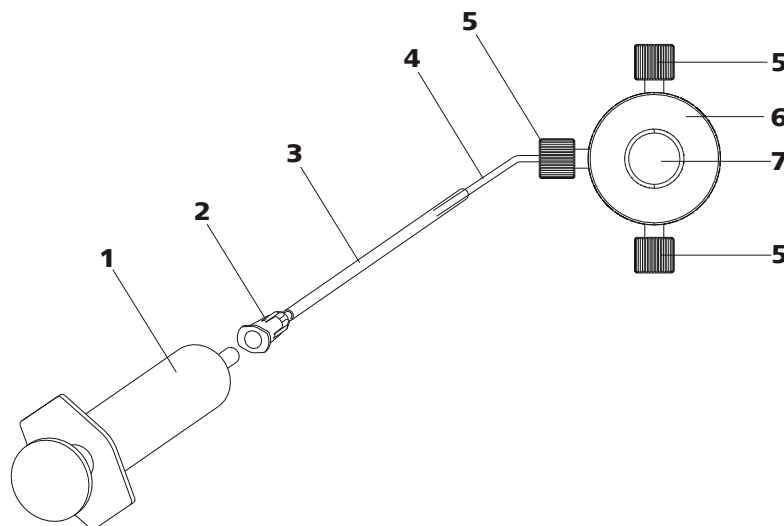

Figure 20 Deaerating the high pressure pump
Deaerate the high pressure pump as follows (see Figure 20, page 40):
- Insert syringe (20-1) in the Luer connector (20-2) of the purging needle (see Figure 20, page 40).